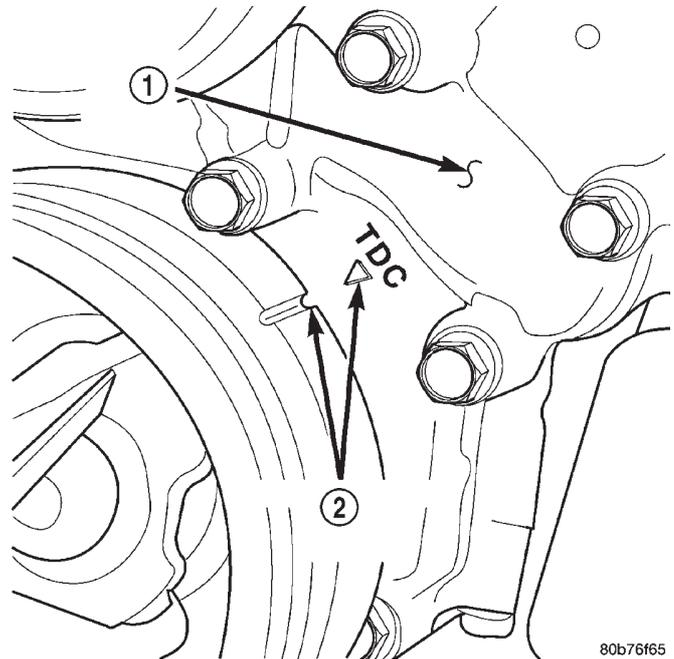

Fig. 109 Engine Top Dead Center (TDC) Indicator Mark
(1) Remove the cylinder head covers (Refer to 9 - ENGINE,CYLINDER HEAD,CYLINDER HEAD COVER(S) - REMOVAL).
(2) Using a mirror, locate the TDC arrow on the front cover (Fig. 109). Rotate the crankshaft until the mark on the crankshaft damper is aligned with the TDC arrow on the front cover. The engine is now at TDC.